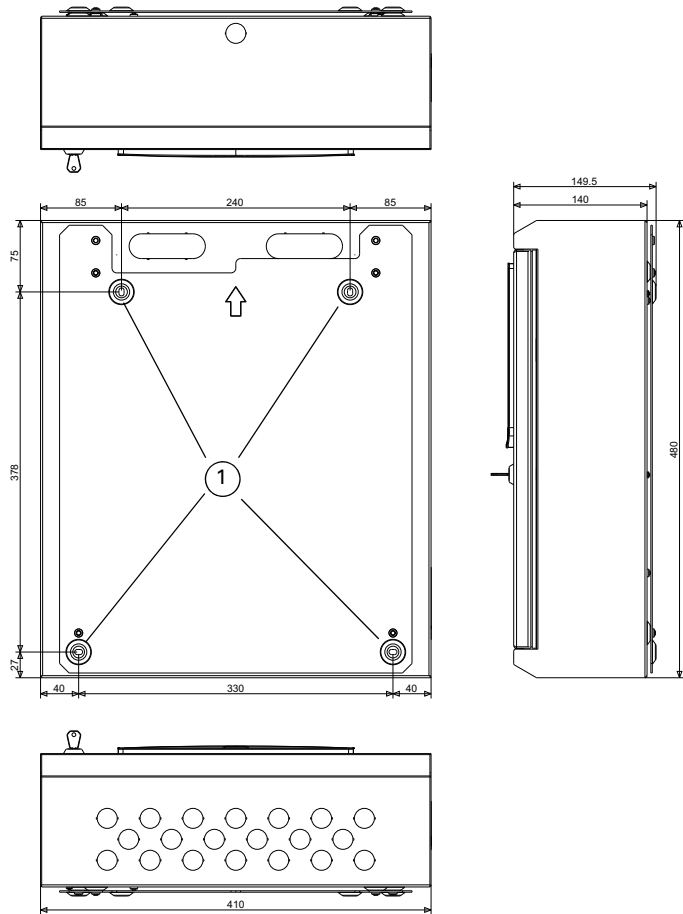
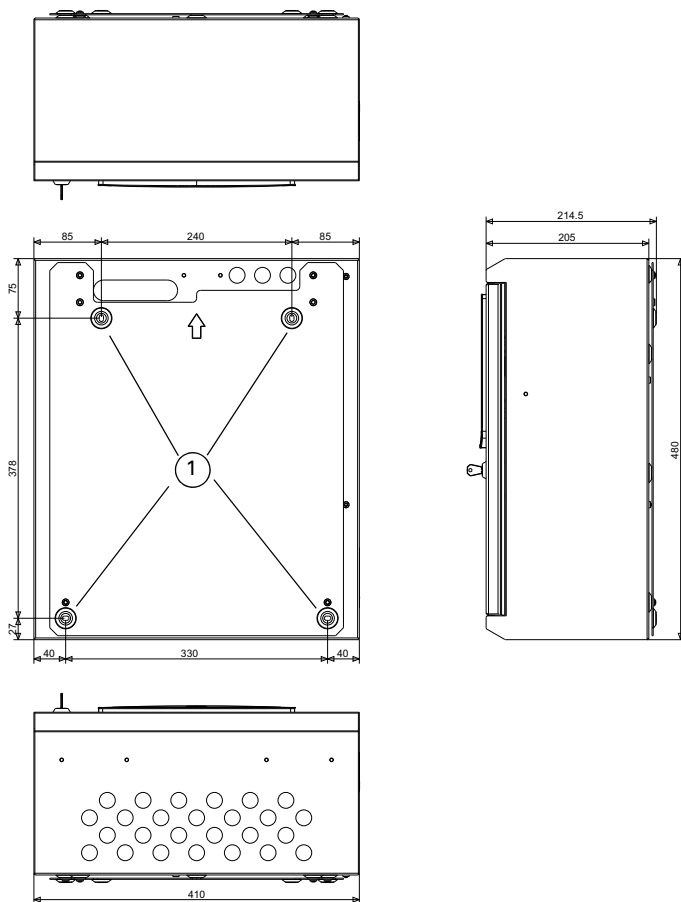

Fig. 3: FC702S - Mounting plate fixing and overall dimensions in mm
Fig. 4: FC702D, FC718D and FC708D panels - Mounting plate fixing and overall dimensions in mm
- Determine the mounting positions and use the dimensions in Fig. 3 for a FC702S panel and Fig. 4 for a FC702D, FC718D or FC708D panel.